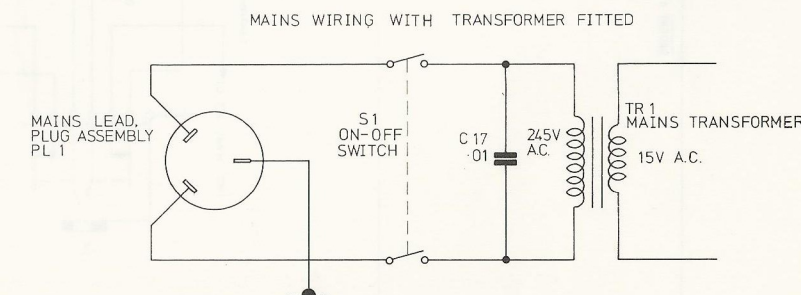

FIG 2
D.C. voltage for the amplifier is derived from a 16 Volt overwind on the record changer motor. Some record changers do not have overwinds. On unit equipped with these changers a separate power transformer is fitted. (See Fig. 2.)